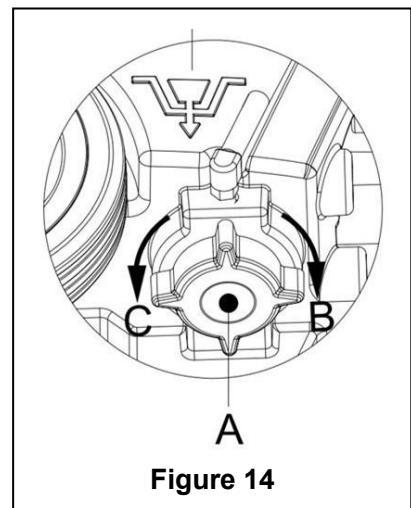

Figure 14
7. As shown in **Figure 14**, turn open the lid of Solution tank (A) anticlockwise along direction C, and drain Solution tank completely. Use pure water to cleanse the inside of Solution tank. When work is completed, turn tight the lid of Solution tank (A) clockwise in direction B.